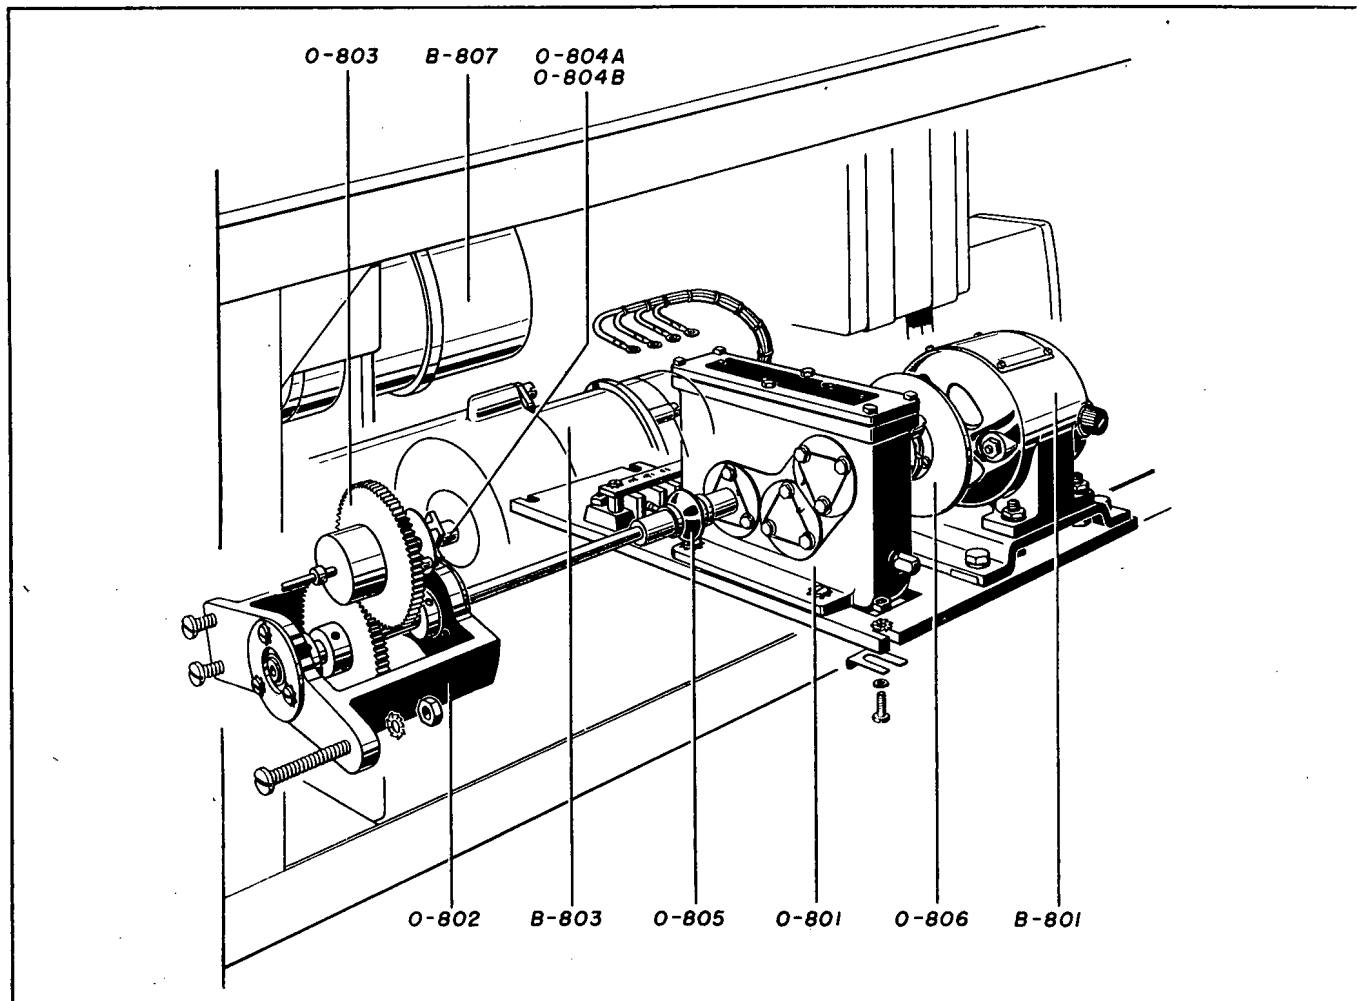

Figure 7-60. Removing Slewing Mechanism from Bearing Indicator
(1) Whenever it is necessary to remove any part of the slewing mechanism, it is easier to remove the entire assembly first and then remove the defective part. The reason for this is the delicate construction of the gears in the gear box. If the drive shaft is bent, the gears in the gear box will be sprung out of alignment and will damage very rapidly as the shaft is rotated. To remove the assembly, refer to Fig. 7-60 and the following procedure.
(h) Push the bottom of the bedplate toward the center of the chassis allowing it to drop down to the surface of the table. This permits the top of the bedplate to clear the rail so that it can be swung outward. Next, lift the entire assembly out and away from the chassis. The steps just described are illustrated in Fig. 7-60.